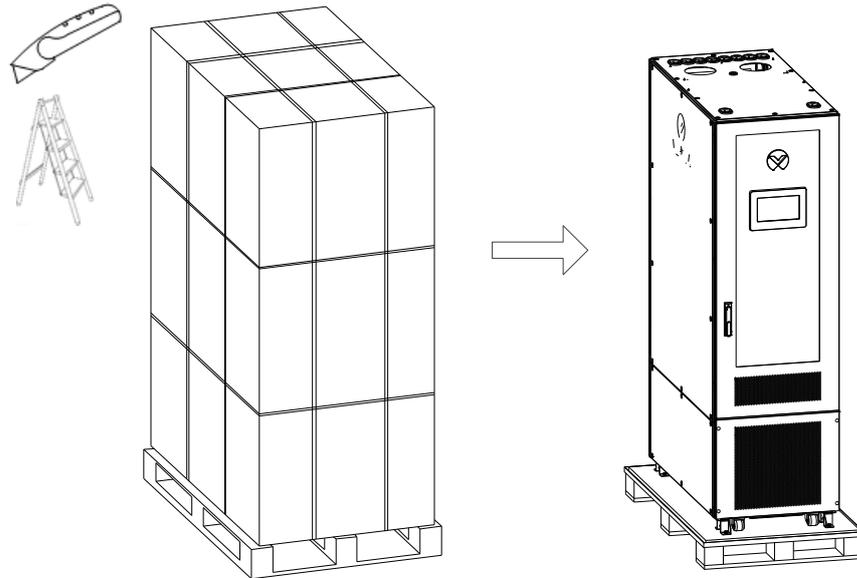

Figure 2-5 Remove paper package
- 2) If you receive the carton packaging, use a utility knife to remove the packaging material, as shown in the Figure 2-5.